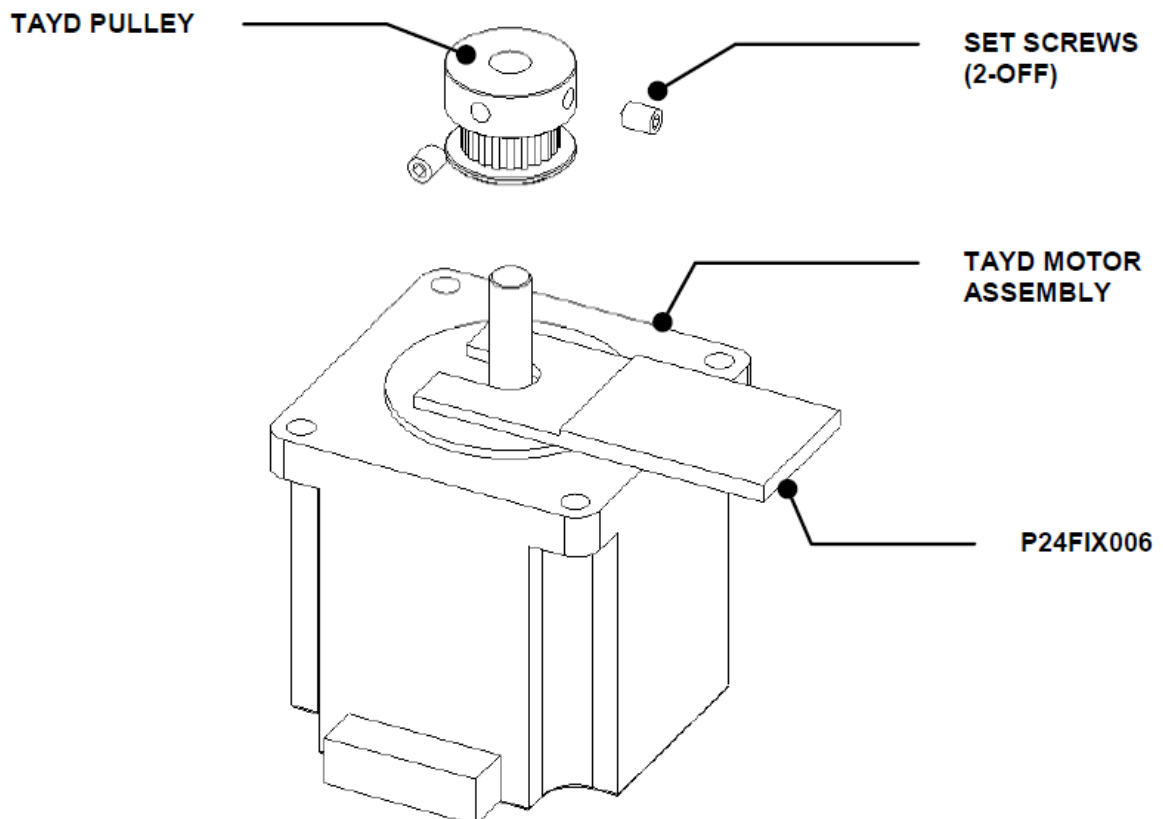

Figure Y-2: Pulley Assembly
1. Attach the Pulley to the Motor Assembly with the Pulley Spacer Ø9 x 2mm (P24FIX006) fixture as shown in Figure Y-2 using the two M4x6 Cone Point Set Screws and Loctite 222. Remove the fixture after the pulley has been affixed.